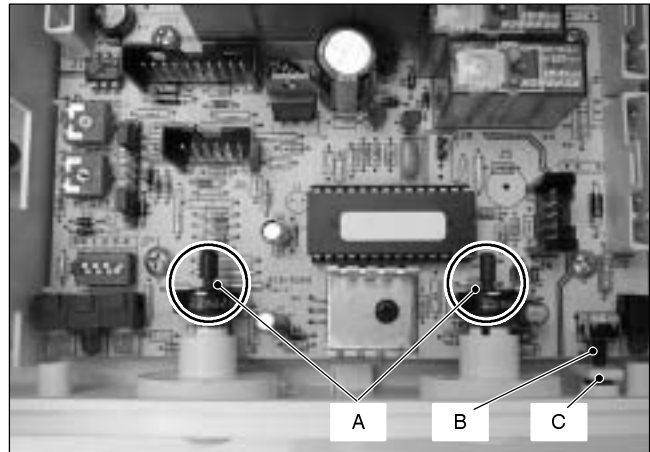

Fig. 38
- 8 Insert the spindles in the control panel knobs until the notch *A* (Fig. 38) reaches the potentiometer edge. It is not necessary to force them in the knob.
sure of the contact between the boiler reset button *B* and the tab *C* (Fig. 38).